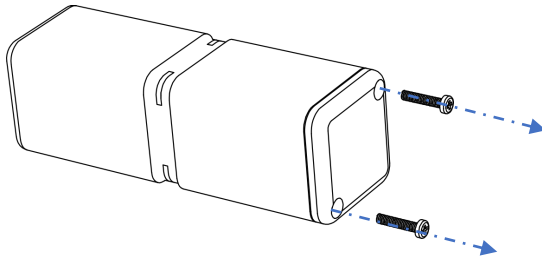

Figure 5A
- Remove the screws of battery cover (Figure 5A)